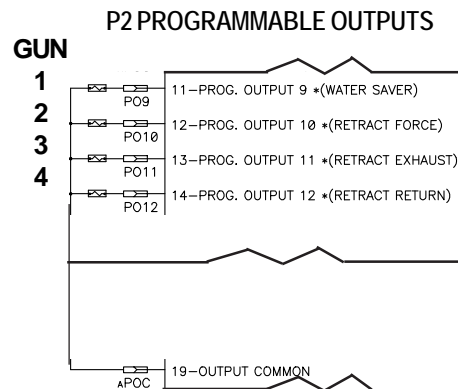

Figure 9-37. *Multiple valve connection*
2. Connect four valves associated with Guns 1-4 to connector P2 as shown in Figure 9-37.
2. Connect four valves associated with Guns 1-4 to connector P2 as shown in Figure 9-37 (see Section 9.9.1).